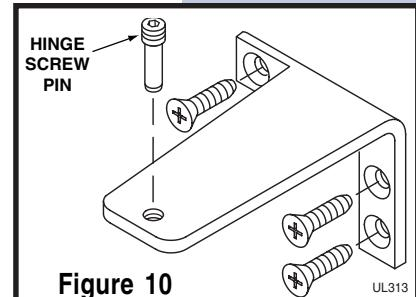

Figure 10
- 3 Remove top hinge (3 screws), reinstall hinge screw pin, and remount on opposite side BOTTOM (see **Figure 10**).